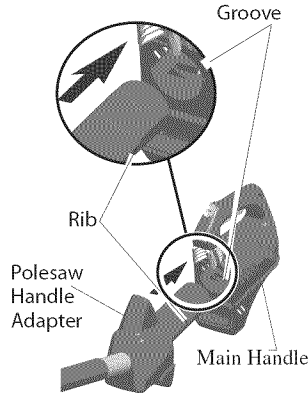

Figure 24 - Align Main Handle with Handle Adapter
5. Align rib on handle adapter on pole with groove in main handle (see Figure 24).